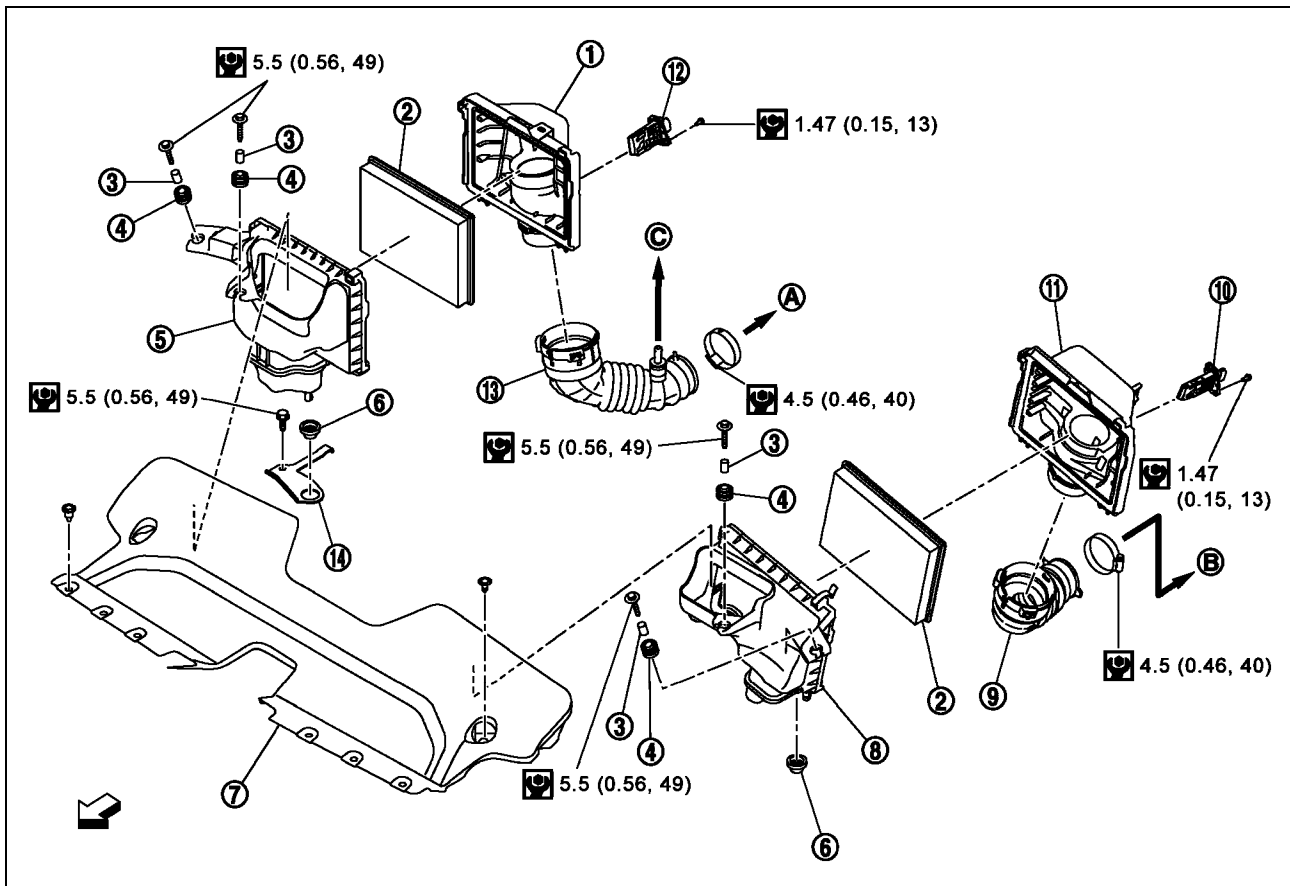

Figure 8
1. Remove the air duct (inlet) shown in Figure 8.